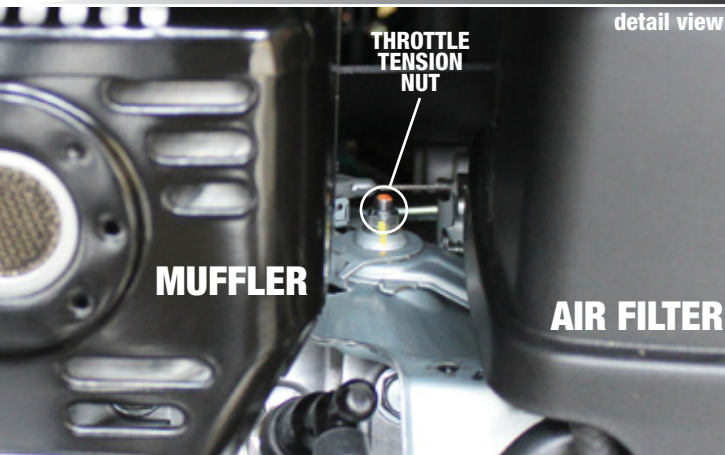

fig. 1
1. From the back of the vehicle, locate the throttle tension nut between the muffler and air cleaner (see figure 1).